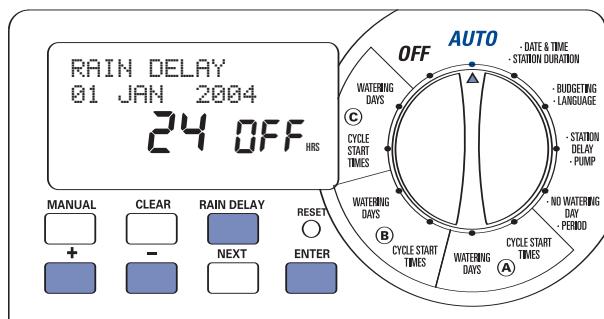

Figure 13: "Rain Delay" set for 24 hours
- Press the **RAIN DELAY** button to automatically delay watering for 24 hours. [See Figure 13]